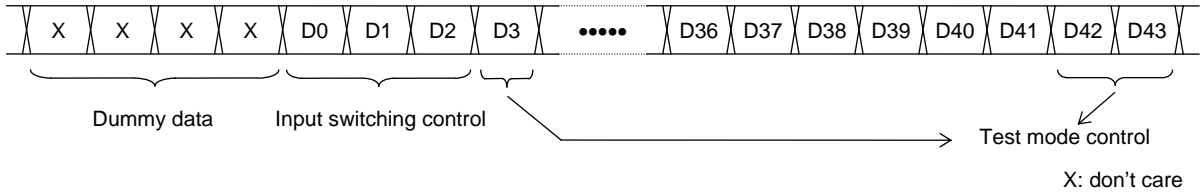

Figure 1
- 2) The data format of the LC75412WS uses 8-bit addresses and 44-bit data. When sending data using multiples of 8 (when sending 48 bits), use the method described in Figure 1.